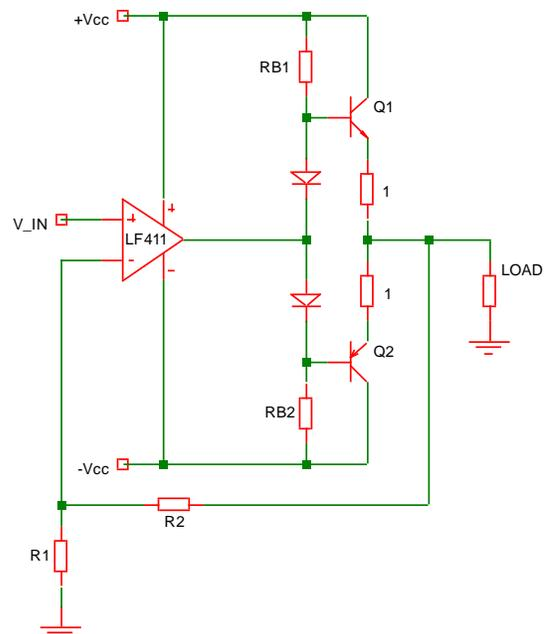

Fig. 8: Voltage amplifier using an LF411 op amp.
- 8) Design a non-inverting voltage amplifier to drive a DC motor rated at 5V @ 100 mA. The input signal is a DC voltage between -0.5V and +0.5V. The suggested schematic is shown in Fig. 8, where an LF411 op amp is used.